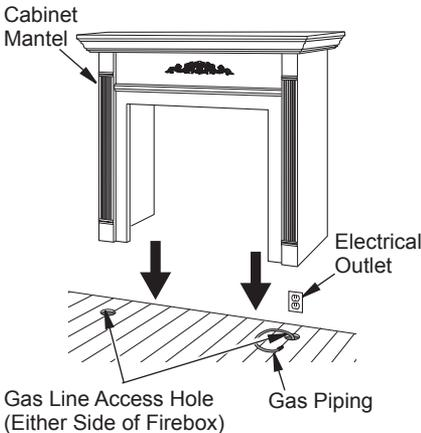

Figure 9 - Installing Cabinet Mantel
2. If using an optional blower accessory (circulating models only), install a properly grounded, 120 volt three-prong electrical outlet at firebox location if an outlet is not there. If possible, locate outlet so cabinet mantel will cover it when installed (see Figure 9).
3. Install gas piping to firebox location. See *Connecting to Gas Supply*, page 15. You may have to cut an access hole in the floor or wall to run gas line to firebox. Make sure to locate access hole so cabinet mantel will cover it when installed (see Figure 9).